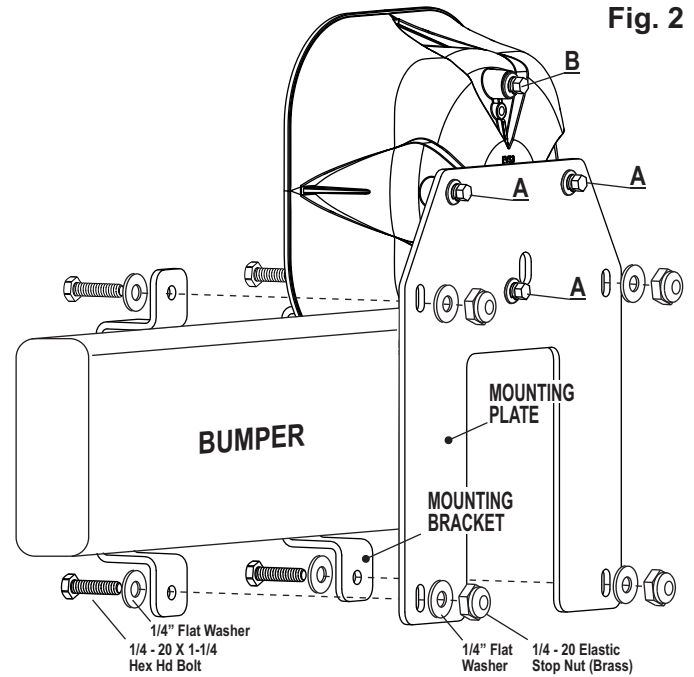

Fig. 2
4. Mount the main bracket and speaker assembly to the bumper using the 2 provided mounting brackets (Fig. 2). Attach via the supplied 1/4 - 20 bolts with washers and nylock nuts